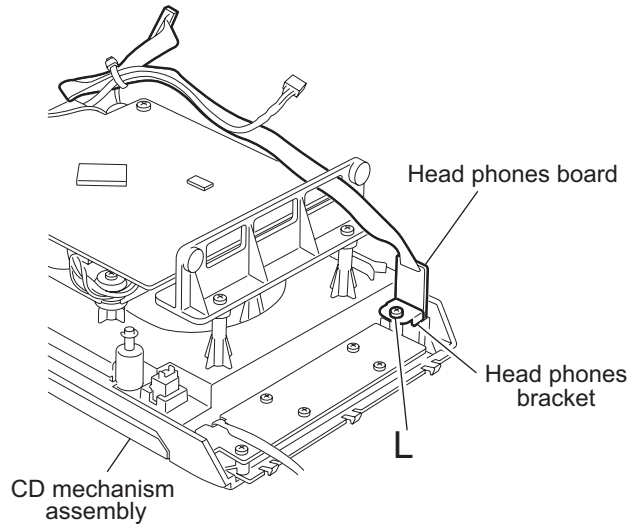

Fig.14
3.1.5 Removing the Headphone board (See Fig.14)